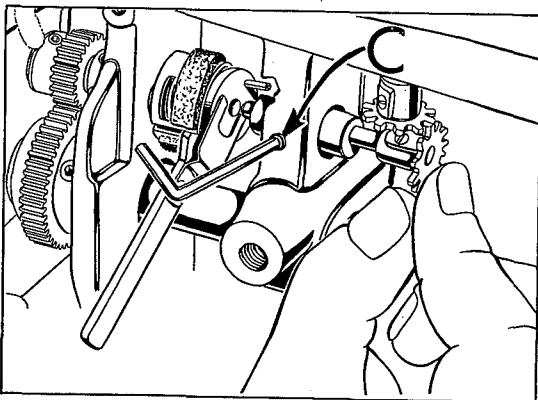

Fig. 25
5. Insert pump disc (F) into assembly tool No. 21227 BY, with the stop pin on the spring side of tool,  $180^{\circ}$  from handle. Insert disc approximately half way into the spring and center in tool (Fig. 25).
7. A clearance cut on the edge of the metering cup, located between the dovetail and the long horizontal slot, has been provided for the pump disc tool and should be facing you (Fig. 25).
9. Press hook oil control shaft bushing (L) to the left until control shaft (D) is approximately  $1/16$  inch away from pump disc (F). Make sure the control shaft pivot pin (E) seats in the depression at the center of the pump disc. Tighten set screw (C, Fig. 25) and withdraw assembly tool. Be sure air seal felt (J) has seated against the pump disc.